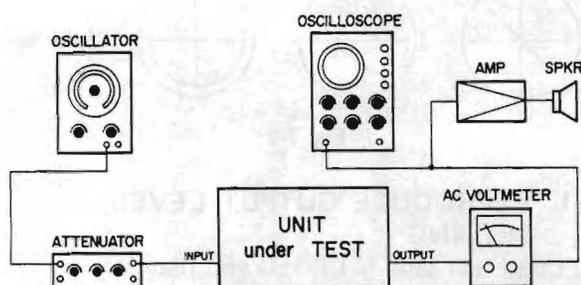

Fig. 7-3
- a. Connect the measuring instruments as shown in Fig. 7-3.
- 1) Connect the measuring instruments as shown in Fig. 7-3.